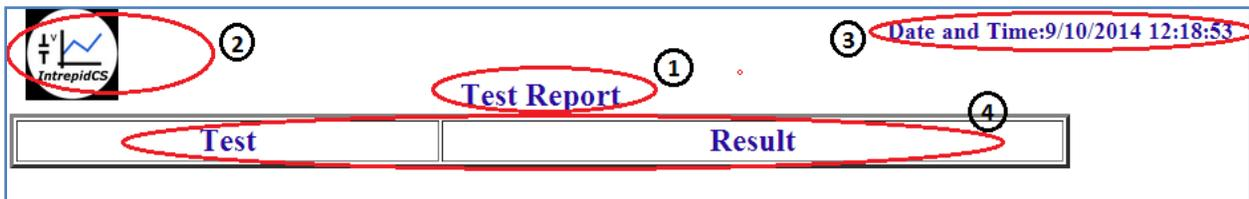

Figure 7: Test Report header view
- Display title on report (Figure 7(1)):
- Display image on report (Figure 7(2)):
- Display date and time (Figure 7(3)):
- Create table column header (Figure 7(4)):
- When this Function Block will run it will create log file in data directory and report header structure view will be as shown if Figure 7.